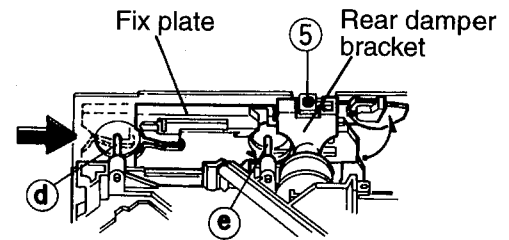
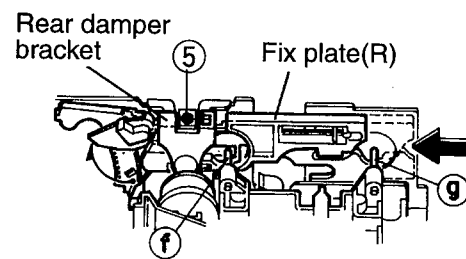

Fig.17
Fig.18
- 2.When shining the fix plate on the right and left Sides respectively to the arrow direction, lower the entire CD mechanism. When the shafts(㉔, ㉕, ㉖ and ㉗) on both the right and left sides have been set free as shown in Fig.17 and Fig.18,then the assembly can be removed easily.Remove the two screws ⑤ retaining the rear damper bracket to make it easier to remove the damper from the rear damper bracket(See Fig.10, Fig.17 and Fig.18).